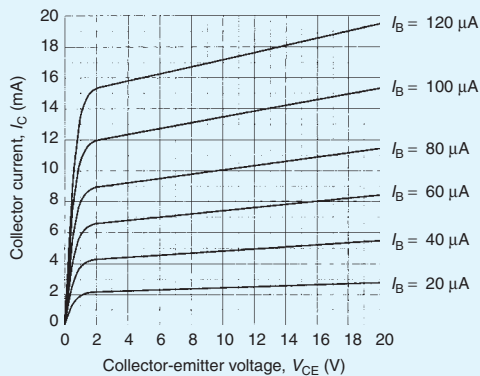

Figure 12.27
- The output characteristics for a BJT are shown in Fig. 12.27. If this device is used in a common-emitter amplifier circuit operating